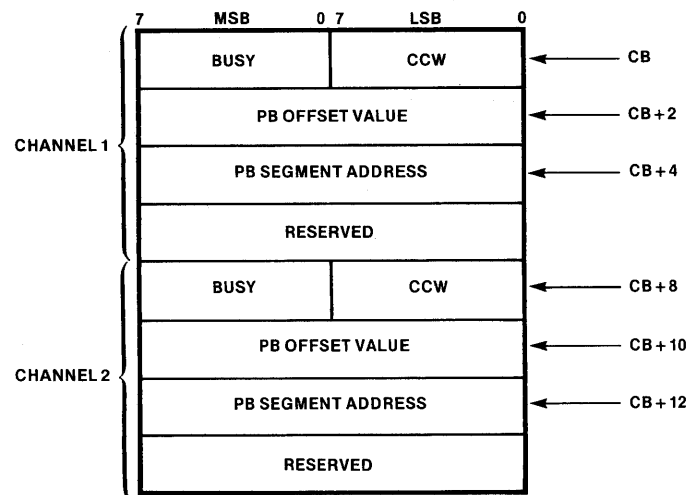

Figure 1-7. The Channel Control Block (CB)
The address of the Channel Control Block (CB) is supplied to the 8089 during system initialization (see "8089 Initialization" later in this chapter). The Channel Control Block contains two identical sets of pre-defined fields, one for each channel (figure 1-7). Each set of fields is composed of six bytes: a one-byte Channel Control Word (CCW) used to issue commands to the I/O channel; a one-byte channel BUSY flag, indicating the activity status of the channel; and two words used to supply the offset and segment address of the channel's Command Parameter Block.